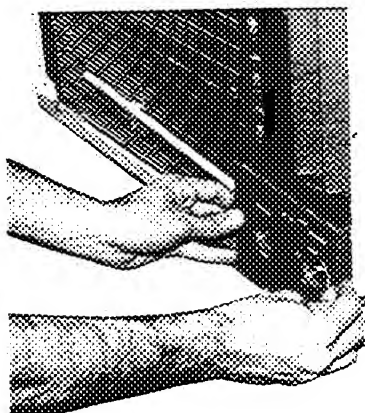

Fig. 6 – Removing Escutcheon
4. Grasp escutcheon located in lower right-hand corner of unit and apply pressure on both sides towards the center. See Fig. 6. Carefully disengage escutcheon plastic tabs from sheet metal slots and remove.